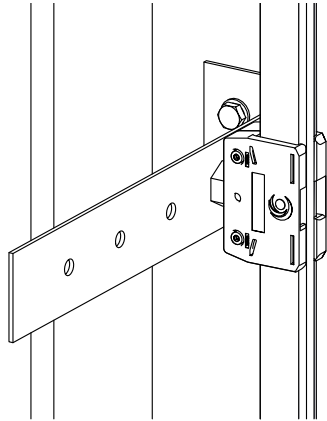
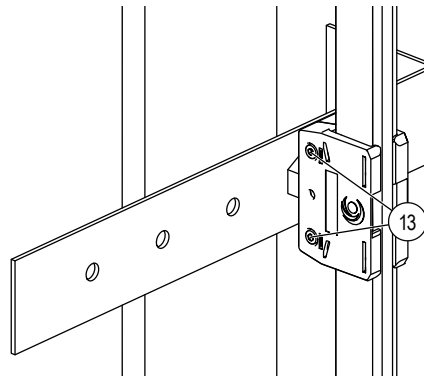
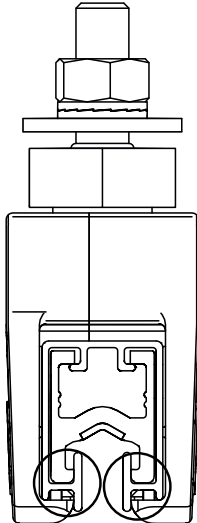

Fig. 34: Hang conductor rail in hanger clamp
Fig. 35: Tighten hanger clamp cylinder screws (Pos. 13)
Fig. 36: Hanger clamp completely encases insulating profile
- Click the conductor rail into the already mounted hanger clamps (see Fig. 34) and tighten the loosely mounted cylinder screws M4 x 22 (Pos. 13) of the two hanger clamp housing halves with the specified torque (SW 4, torque: **2.5 Nm**) (see Fig. 35). When hanging, ensure that the conductor rail is completely suspended in the hanger clamp (see Fig. 36).